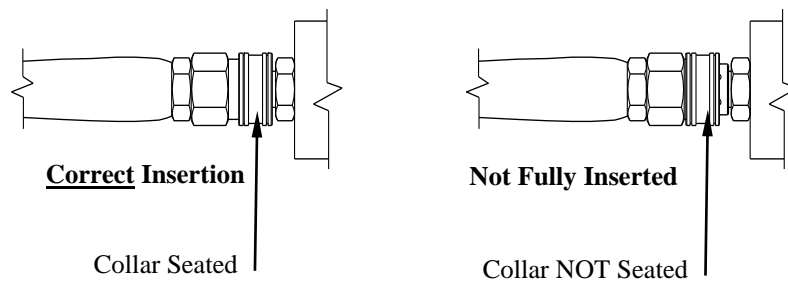

Figure 8b
4. Release the collar, making sure it springs back and re-seats to its original (non-retracted) position. (Figure 8b). *Check the connection by pulling on the hose to ensure a positive connection.*